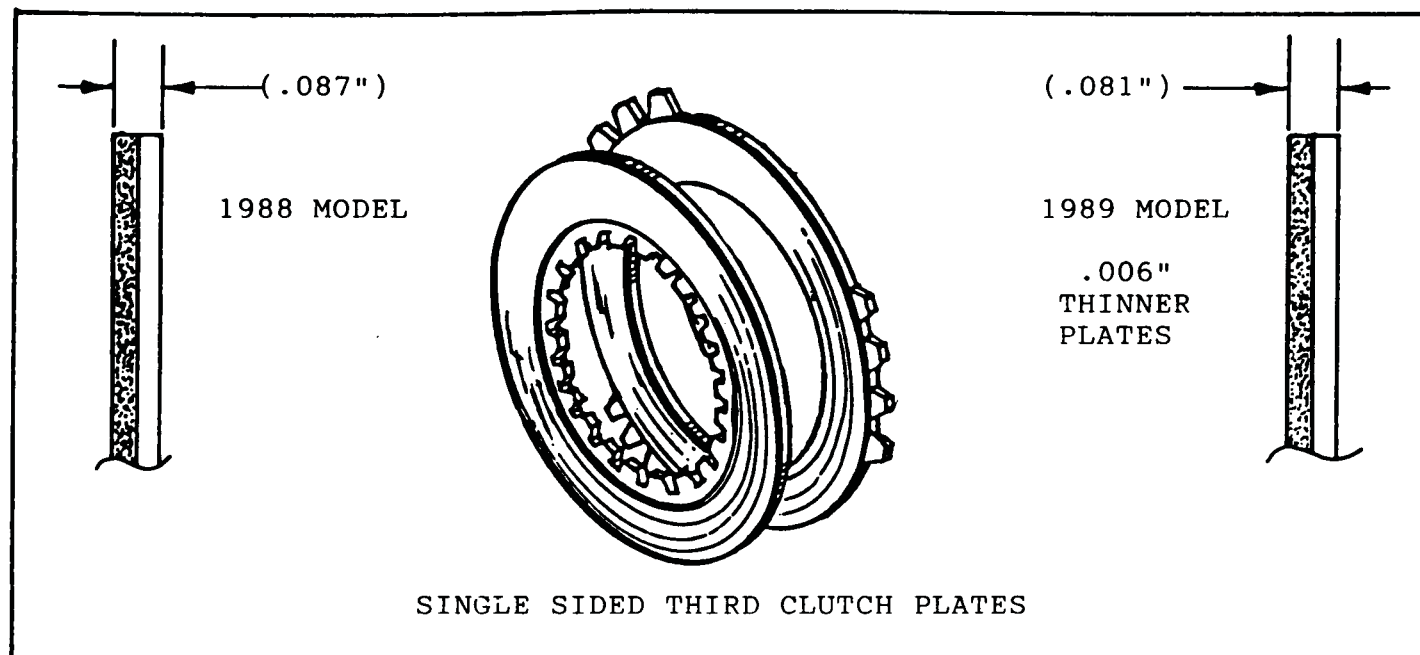

Figure 82
- (1) Single Sided 3rd Clutch Plates - Both inside and outside spline plates are .006" thinner for 89, to make room for the two additional plates (See Figure 82).